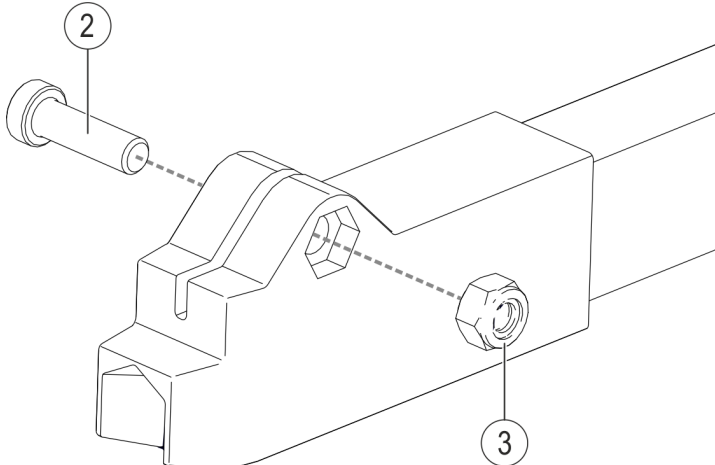

Fig. 106: Tighten cylinder screw
- Tighten the cylinder screw DIN 6912-M6x20 (Pos. 2) and lock nut DIN 985-M6 (Pos. 3) with a hexagon screwdriver SW4 (see Fig. 106).